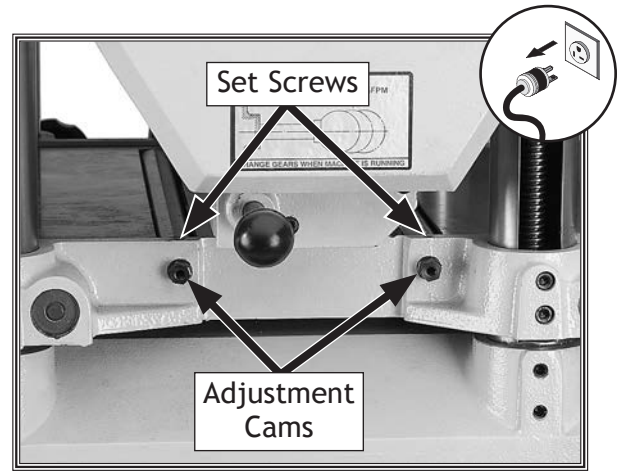

Figure 21. Bed roller height controls.
3. Loosen set screws (see **Figure 21**) above each of four roller adjustment cams (there are two on each side of planer).